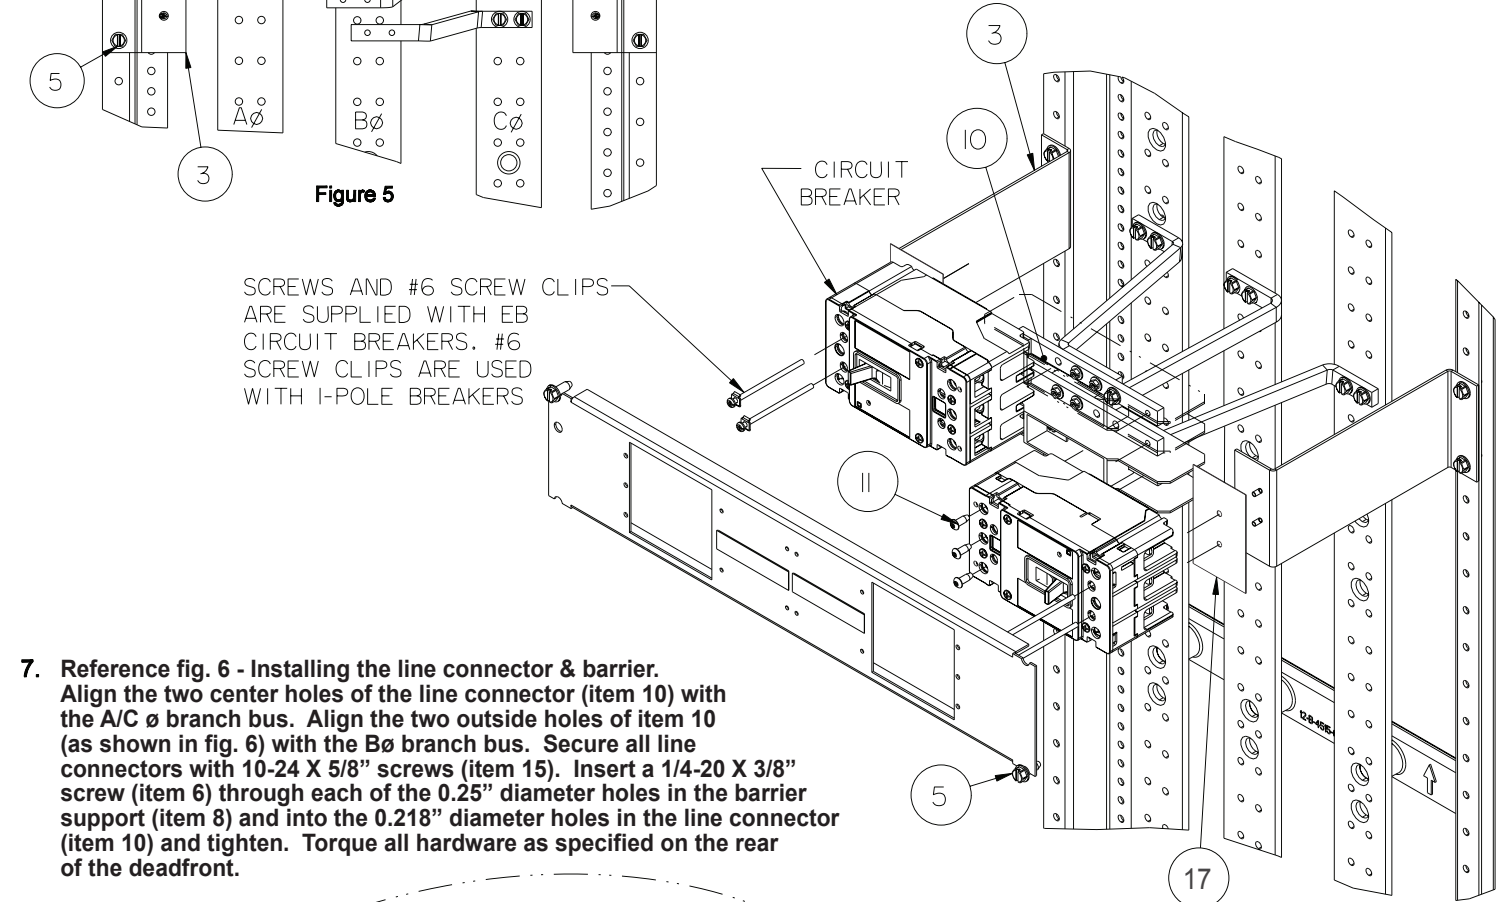

Figure 7
8. Reference figs. 7 - Installing an EB circuit breaker. Place the Mounting Barrier (item 17) between load side of EB breaker and EB mounting bracket. Align the EB circuit breaker mounting holes with the corresponding holes in the mounting barrier (item 17) and mounting holes in the mounting bracket (item 3) and secure the outer screws (supplied with circuit breaker) to the mounting bracket (item 3). Align the breaker line side connectors with the line connectors (item 10). Insert a 10-24 X 5/8" screw (item 11) into the 0.203" diameter hole in the metal contact on the line side of the circuit breaker. Repeat this step for mounting the rest of the hardware. This step can be repeated or mirrored for additional circuit breakers. Torque all hardware as specified on the rear of the deadfront.